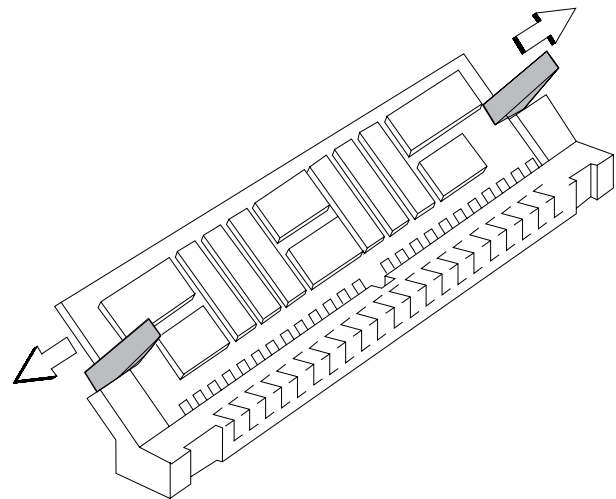

Figure 1-12. Memory Module Remove and Replace
- 3 Push the memory module retainers outward simultaneously until they release the module. See Figure 1-12.